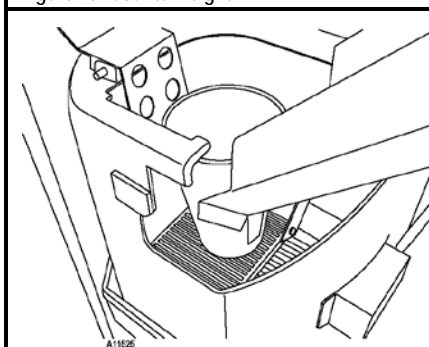

Figure 9e. Delivery Compartment
- 4a. The cup should be dispensed via the stainless steel cup chute on and land squarely on the platform of the delivery compartment. See **Figure 9e**.